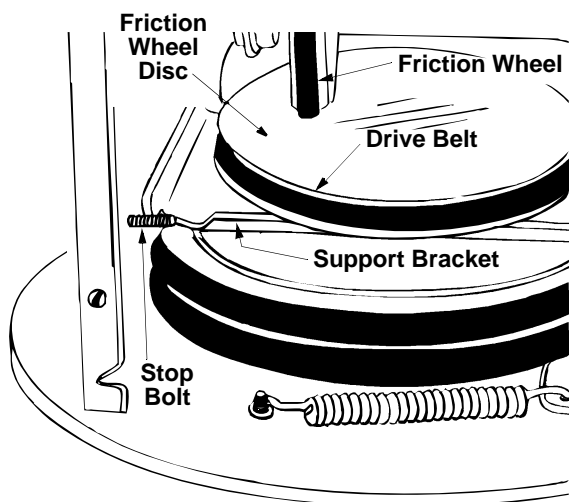

Figure 32
7. Back out the stop bolt to allow the belts to slip between the bolt and auger pulley. See Figure 32.
3. Back out the stop bolt until the support bracket rests on the auger pulley. See Figure 32.
NOTE: The support bracket must rest on the stop bolt after the new belt has been assembled. See Figure 32.